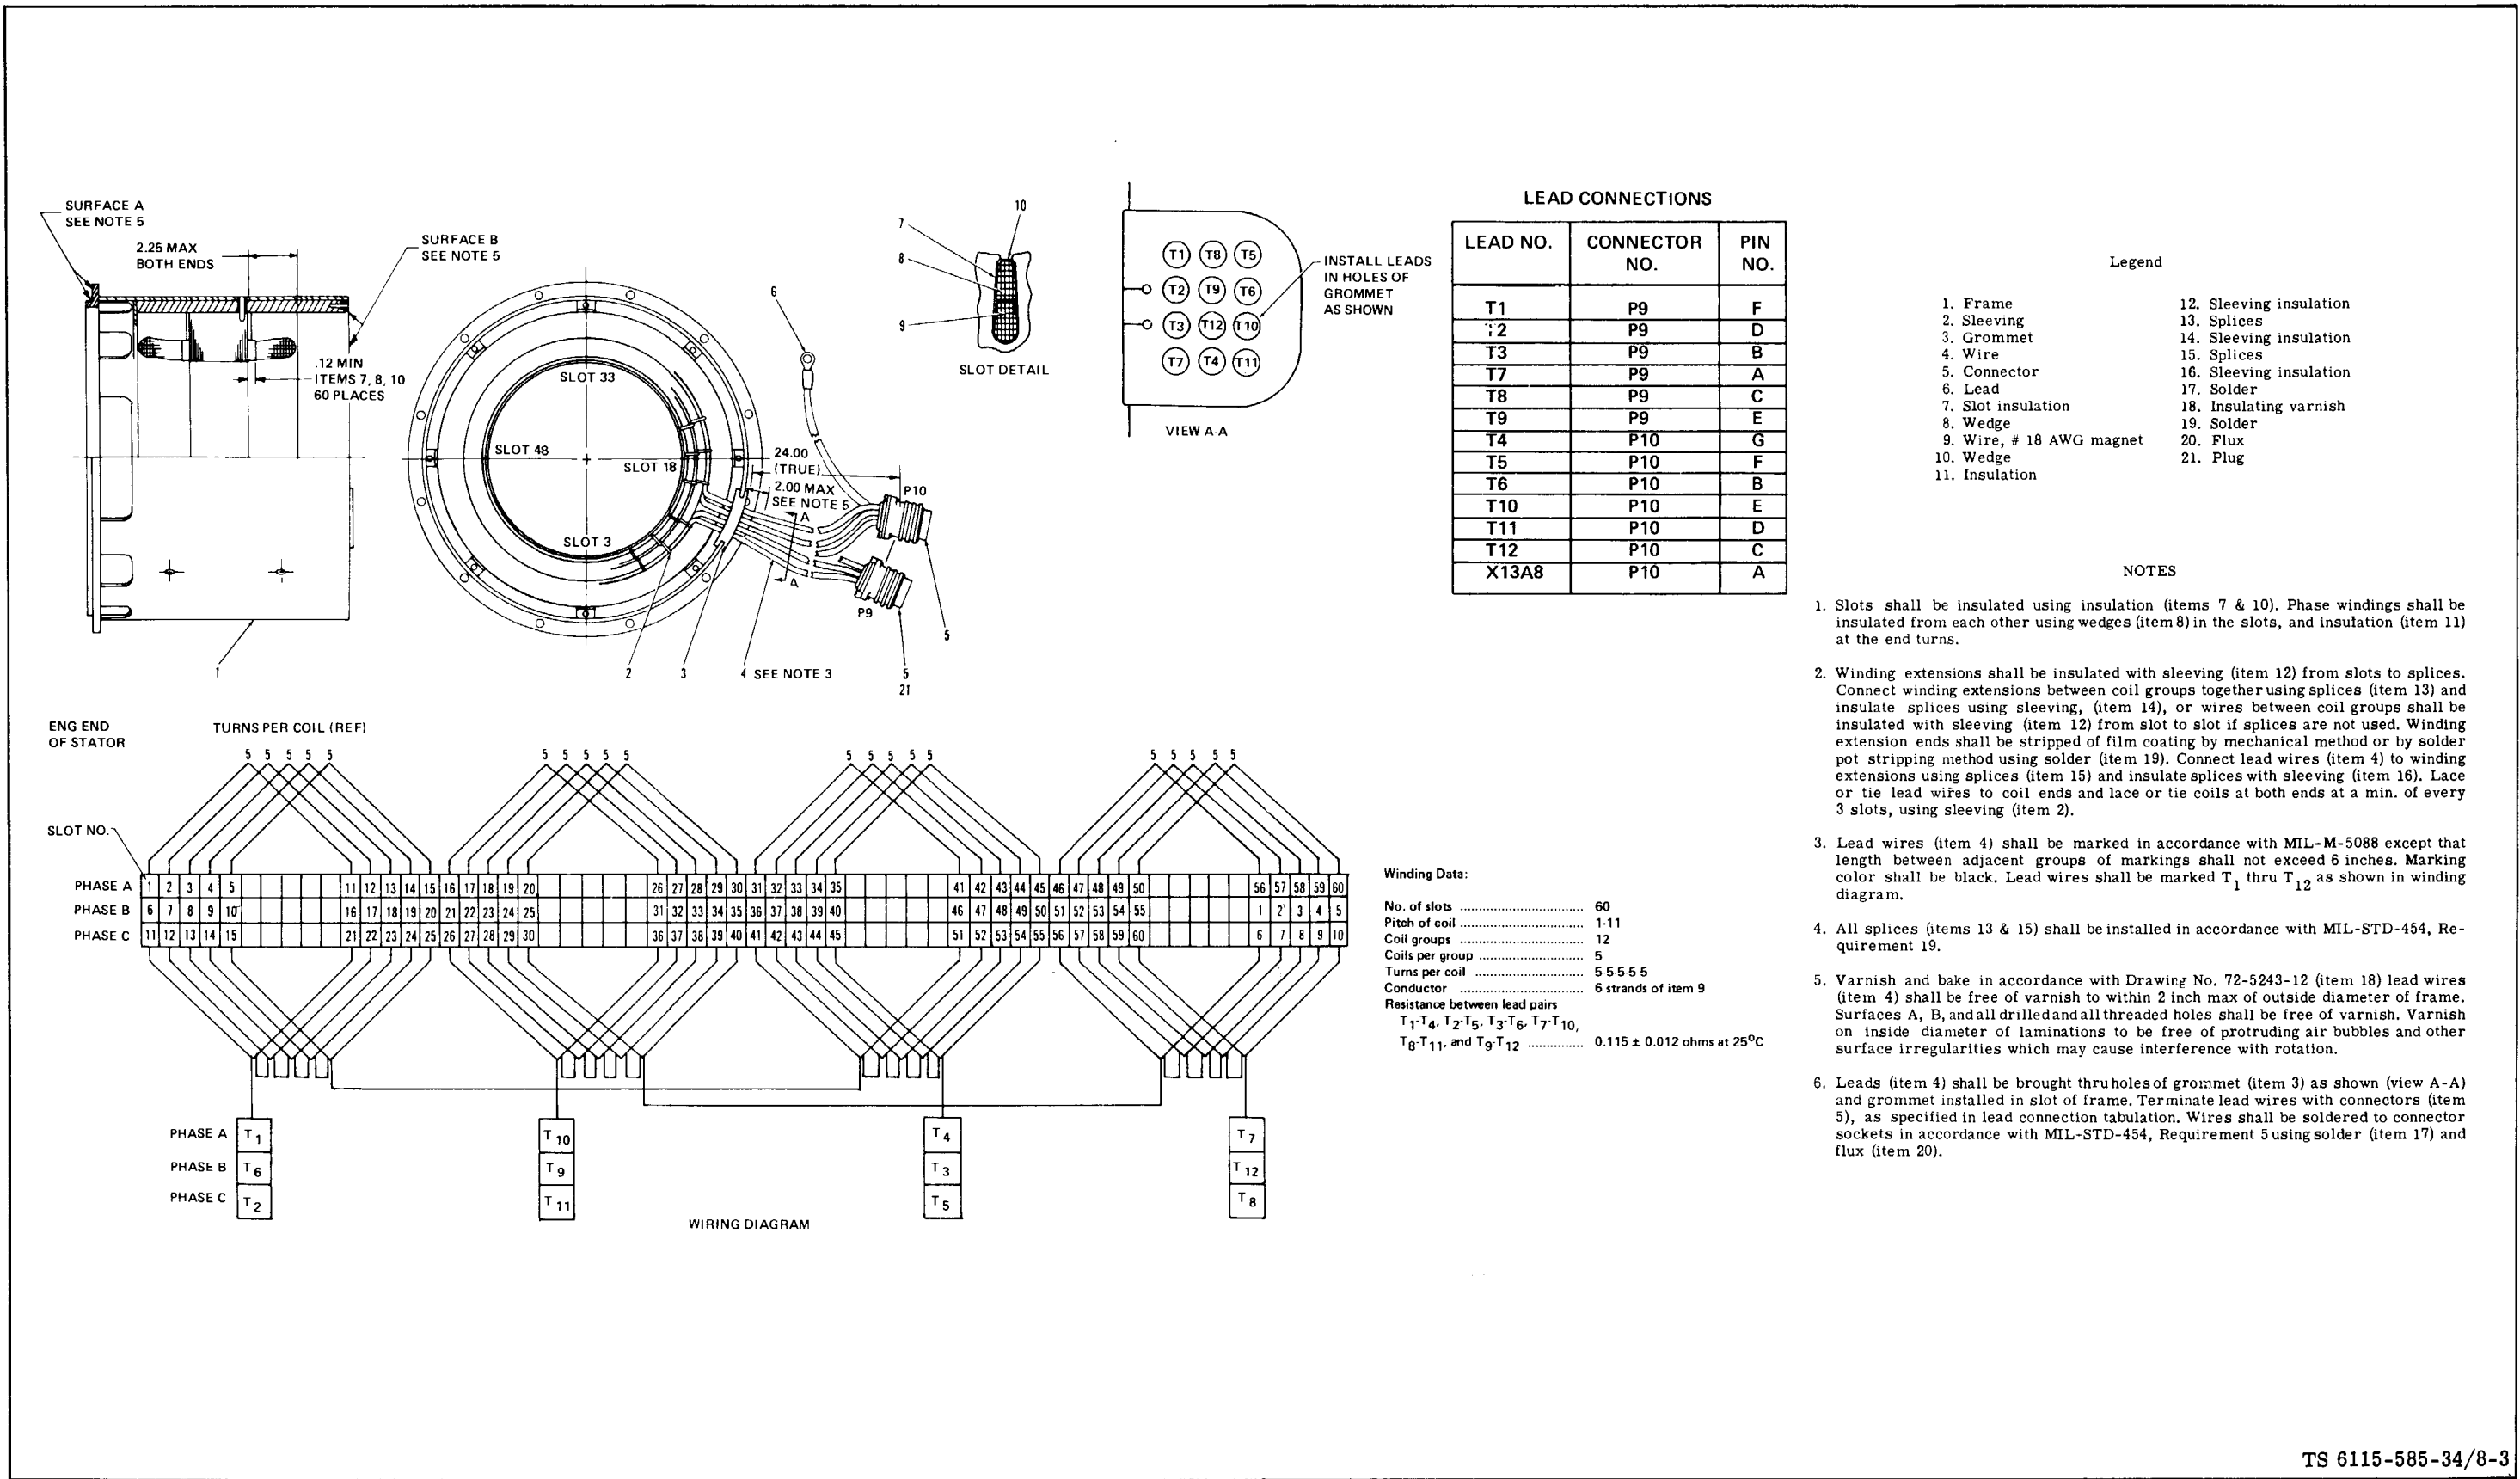

Figure 8-3. Generator Frame Assembly Winding Data (MEP-003A)
(1) High Potential Test. Test generator stator as given in paragraph 8-2e of this manual. Replace stator having faulty insulation.
(2) Winding Resistance Test. Perform winding resistance test using a Kelvin bridge. Follow the manufacturer's instructions given on the bridge. Resistance readings should be made on the pins of P9 and P10 (see figure 8-3). Resistance between lead pairs  $T_1-T_4$ ,  $T_2-T_5$ ,  $T_3-T_6$ ,  $T_7-T_{10}$ ,  $T_8-T_{11}$  and  $T_9-T_{12}$  should be 0.115  $\pm 0.112$  ohms at 77° F (25° C) for the MEP-003A. For the MEP-112A, resistance should be 0.071  $\pm 0.007$  ohms. Refer to the table in figure 8-3 for location of the terminals.
(1) Generator frame assembly (see figure 8-3).